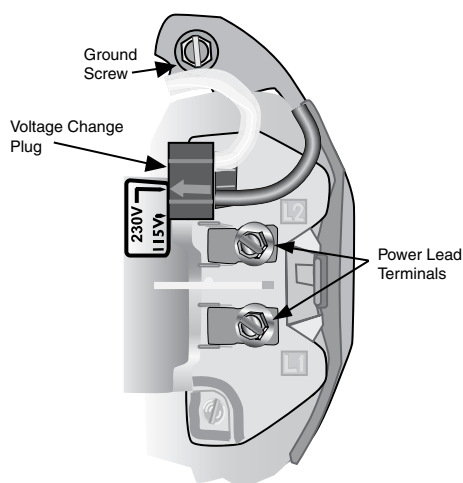

Figure 6 – Voltage set to 230 volts, Plug Type.
NOTICE Voltage setting (under the motor end cover) options are shown in Figure 6 and 7. Do not change motor wiring if line voltage is 230 volts. Connect power supply as shown for your supply voltage.
1. Connect ground wire first. Connect the ground first, then to green grounding terminal provided under motor canopy (see Figure 6) identified as GRD. Make ground connection to this terminal. Do not connect motor to electrical power supply until unit is permanently grounded; otherwise serious or fatal electrical shock hazard may be caused.